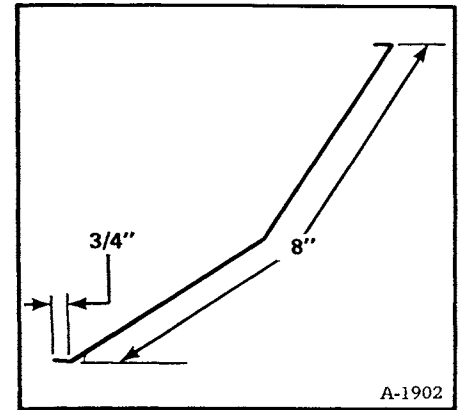
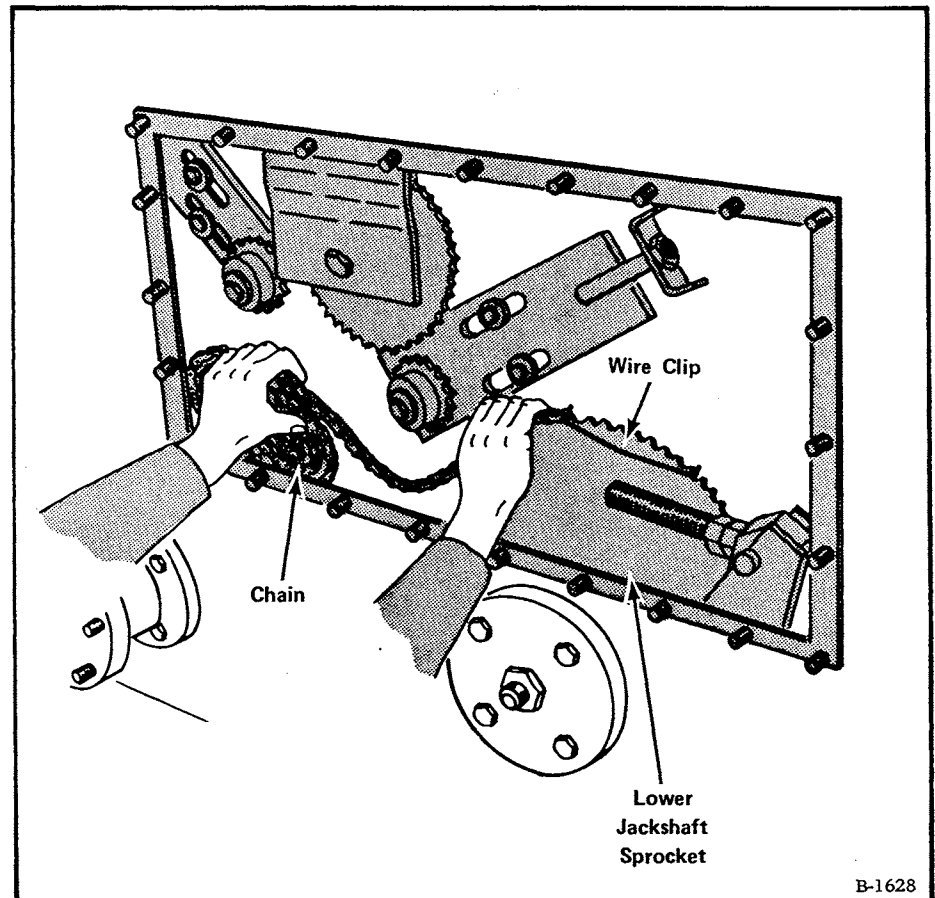

Fig. 4-8 Wire Clip
Fig. 4-9 Installing Secondary Chain
- (1) Make a hard wire clip, about 8" long (Fig. 4-8).
- (2) Hold one end of the chain and let the remainder fall into the reservoir, near the sprocket.
- (3) Put the chain on the large lower jackshaft sprocket and install the wire clip as shown in figure 4-9.
- (4) Rotate the drive system pulling the chain onto the sprocket until the wire clip end comes into view.
- (5) Fit the other end of the chain around the idler and upper jackshaft sprockets.
- (6) Connect the two chain ends with a new connector link.
- (7) See Section 1 for adjustment.